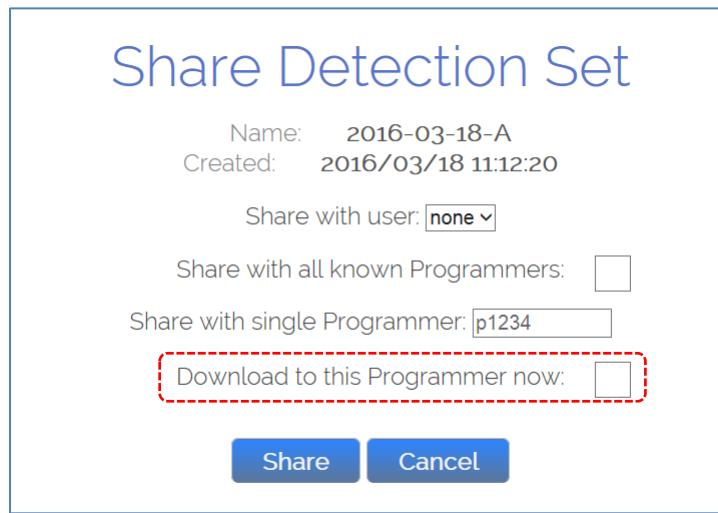

Figure 53 The SHARE DETECTION SET dialog with download now option
- You can select different bursts to be delivered in response to a specific event detector (Pattern A or Pattern B), as depicted in **Figure 53**; or